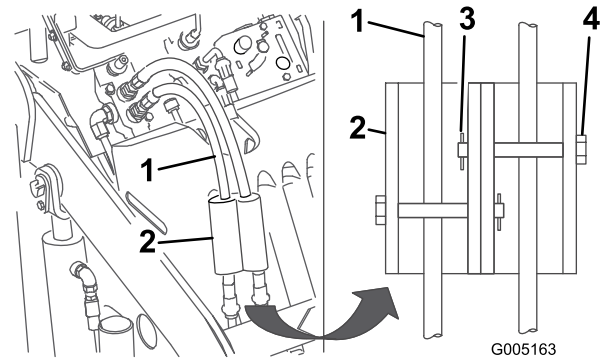

Figure 16
7. Install the cylinder locks over the hydraulic hoses and secure them with the clevis pins and cotter pins (Figure 16).